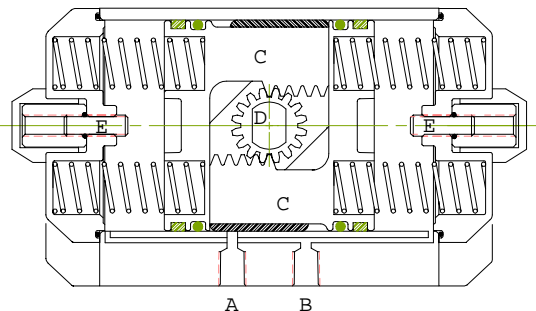

Figure 4 - S91 Single Acting
Figure 4 shows a S91 Single Acting Actuator completing the Spring Stroke Clockwise to the Close Position. When no pressure is applied to the Input Ports (A and B), the springs will force the Pistons (C) toward each other, and the Output Shaft (D) will rotate in a clockwise direction when viewed from the top. The Pistons will move until they touch each other. Air will be drawn in through the Right Input Port (B) as the Pistons move together.